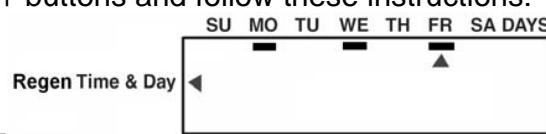

fig. 15
- 6) Press  $\downarrow$  to confirm (the day will be underlined). The water softener will carry out the regeneration on the underlined days (fig. 15).